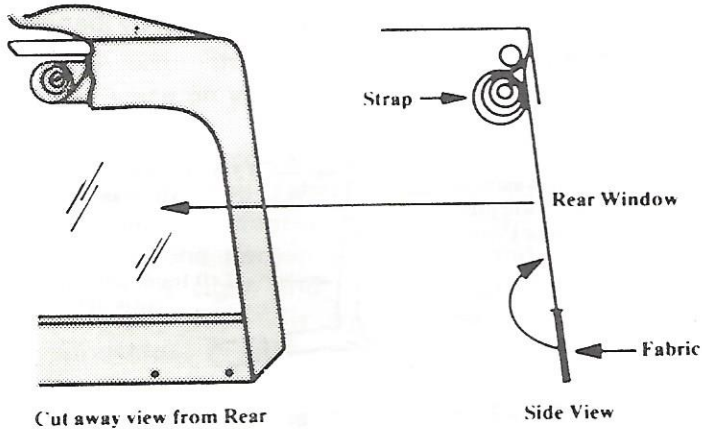

Fig. 18
1. The rear curtain and side panels may be rolled up and secured to the inside of the Top Fabric. To roll the rear curtain, begin at the bottom and then roll to the inside avoiding wrinkles in the fabric and the vinyl windows. See Figure 18.